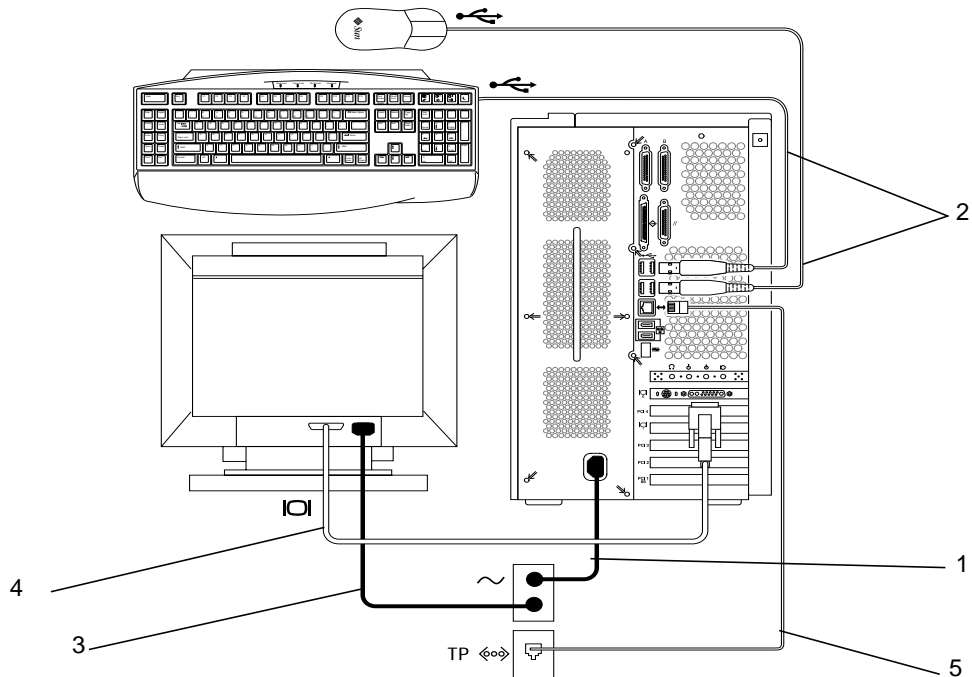

FIGURE 4 Cabling the System
1. Connect the system power cord to a grounded electrical outlet (see FIGURE 4).